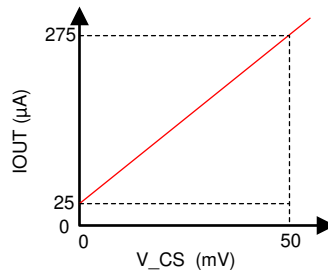

Figure 8-5. Channel Monitor Current Source vs Current Sense Voltage
- the 25 μA is a DC offset current superimposed on to the IOOUT signals (refer to Figure 8-5).